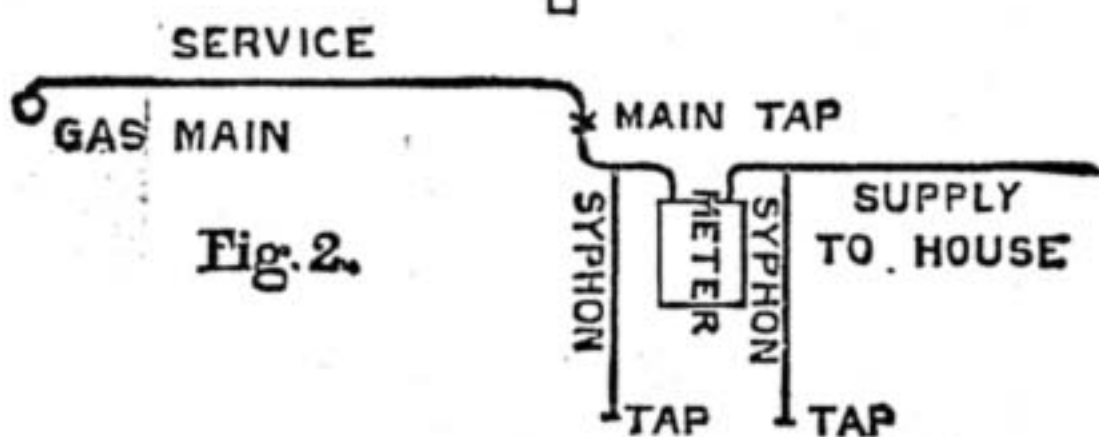
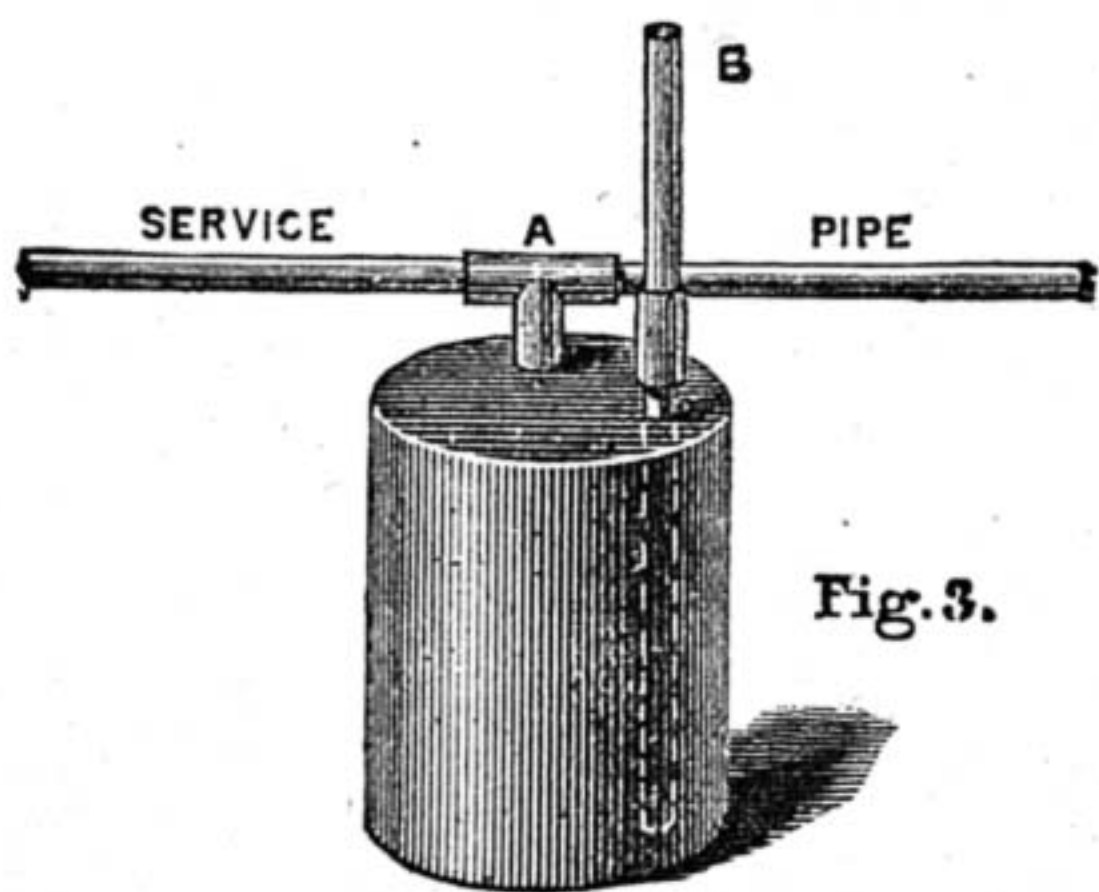

Fig. 2.
Fig. 3.
**Piping.**—W. B. (*Highgate Hill*).—I append a sketch of the usual mode of forming a syphon in gas-fitting. A piece of barrel screwed into a T piece or other approved connection is all that is required, with a tap at the end to let out any moisture that may accumulate from time to time. The length of the syphon in your case should not be less than 2 ft. 6 in. Try to get a rise ever so slight in your service from the main; even if the meter is below it you might rise gently all along until you reach the meter and then drop down, and just before you connect up, insert a deep syphon as in Fig. 2. Always insert a syphon where the pipe goes from one temperature to another. Of course you can insert one anywhere along the length of your service. If your service is buried in the ground, and it is found necessary to insert syphons in it, I should advise you to use what are called "syphon boxes," Fig. 3. These boxes are made to hold from about one quart upwards, and to connect to any size barrel at a
arrangement or other, that is, if you cannot get a jeweller or metal worker to do it for you. But what is the requisite depth? It would average 1/2 of the entire depth of the diamond. The second thing is to make the hole the exact shape and size of the under part, so that it will fit well and support itself in the exact position it has to be fixed in. The best single tool for cutting out the metal after drilling will be a medium size round scorper, about the size in section of Fig. 3 B, and ground and sharpened into the form of Fig. 3 A. Now comes a bit of a difficulty, and that is how are you to be continually trying it in the hole, in order to fit it well. You must have some means of picking it up, placing it in the hole, and removing the means of doing so, in order to look at your work. Now the best thing to use is what is called a wax-stick—that is, a piece of modelling wax (artist's, not dentist's) pinched into a point, and soft enough to